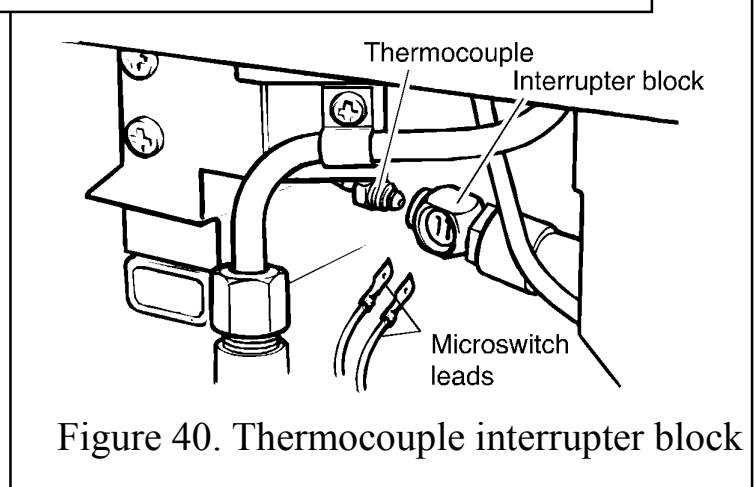

Figure 40. Thermocouple interrupter block
- Loosen the thermocouple nut to free the microswitch leads and pull the leads clear of the thermocouple interrupter block. See figure 40.